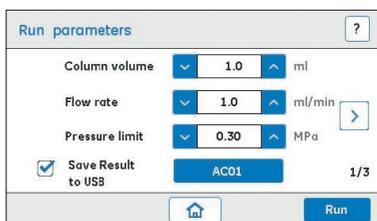

Fig 10. ÄKTA start display: Screenshot of **Run parameters** screen (1/3).
- The following run parameter screen (1/3) appears (Fig 10).